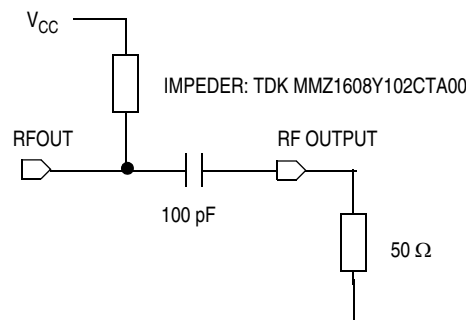

Figure 17-12. Output Power Measurement Configurations
- Output load is $50\text{ }\Omega$ resistor (see Figure 17-12)
The RF output levels given in the 17.13.1 UHF Module Electrical Characteristics are measured with a 50-Ω load directly connected to the pin RFOUT as shown in figure Figure 17-12. This wideband coupling method gives results independent of the application.